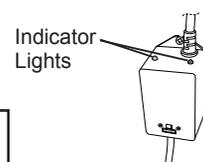

FIGURE 7
22. Once power is activated you can check the ballast (12), Figure 7, to see if the CLEARRAY System is functioning. A solid green light indicates that the CLEARRAY System is being provided power and should always be on. A solid red light indicates that UV bulb is activated.